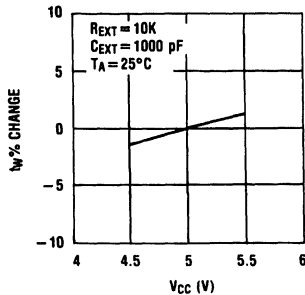
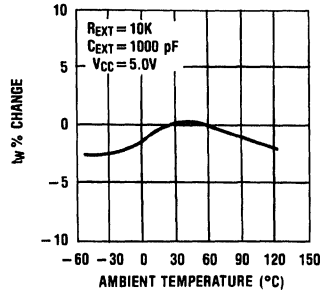

FIGURE 5
FIGURE 6
8. Output pulse width variation versus V_{CC} and temperatures: *Figure 5* depicts the relationship between pulse width variation versus V_{CC} , and *Figure 6* depicts pulse width variation versus temperatures.